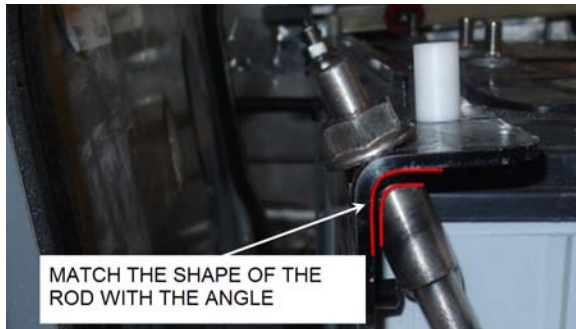

FIGURE 39
3. The upper end of the rods is shaped to match with the angle (FIGURE 39).